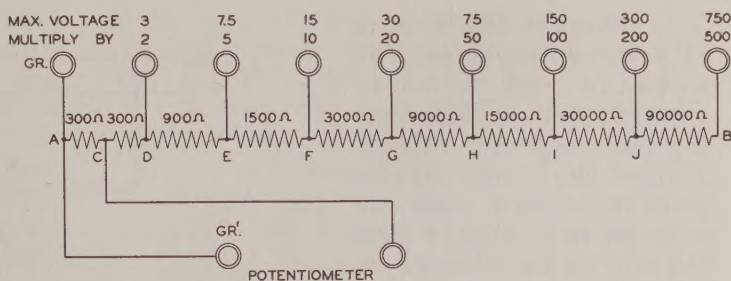

Fig. 3
10. TO USE A VOLT BOX (Figs. 3 and 4)
To measure electromotive forces in excess of 1.6 volts, it is necessary to connect the unknown emf across a high resistance and to measure with the potentiometer a definite fraction of the total unknown emf. Fig. 3 shows a diagram of a typical volt box. In this diagram AB is a high resistance of which AC is one five-hundredth, AD is one two-hundred-fiftieth, AE is one hundredth, AF is one fiftieth, etc., of the total resistance. The potentiometer reading is multiplied by 2, 5, 10, 20, 50, 100, 200 or 500, depending upon the posts to which the emf is connected.